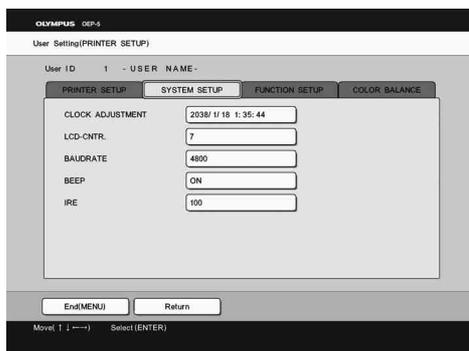

Figure 5.6
- 3 Press “◀” or “▶” to display the “SYSTEM SETUP” menu (see Figure 5.6).